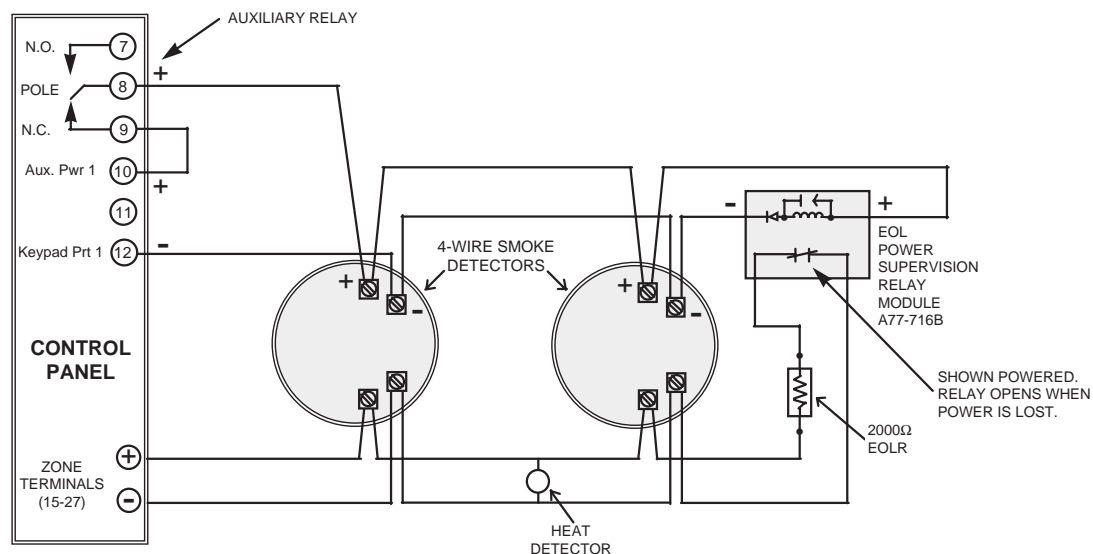

Figure 6-2: 4-Wire Smoke Detector Connections (Zones 1-8)
1. Connect 12-volt power for the detectors as follows: Wire the [+] side of Auxiliary Power (Terminal 10) to the N.C. contact of the Aux. Relay (Terminal 9). Wire the Pole of the Aux Relay (Terminal 8) to the [+] Power side of the smoke detector. Connect the [-] side of the smoke detector to [-] Aux. Power (Terminal 12). Observe proper polarity when connecting detectors (see *Figure 6-2*).
Power to 4-wire smoke detectors must be supervised with an EOL device (use a System Sensor A77-716B EOL Relay Module connected as shown in *Figure 6-2*).
2. Connect detectors (including heat detectors, if used) across terminals of the zone selected. See *Figure 6-2*. All detectors must be wired in parallel. Remove the 2000-ohm EOL resistor if connected across the selected zone terminals. **You must connect the EOL resistor across the loop wires at the last detector.**